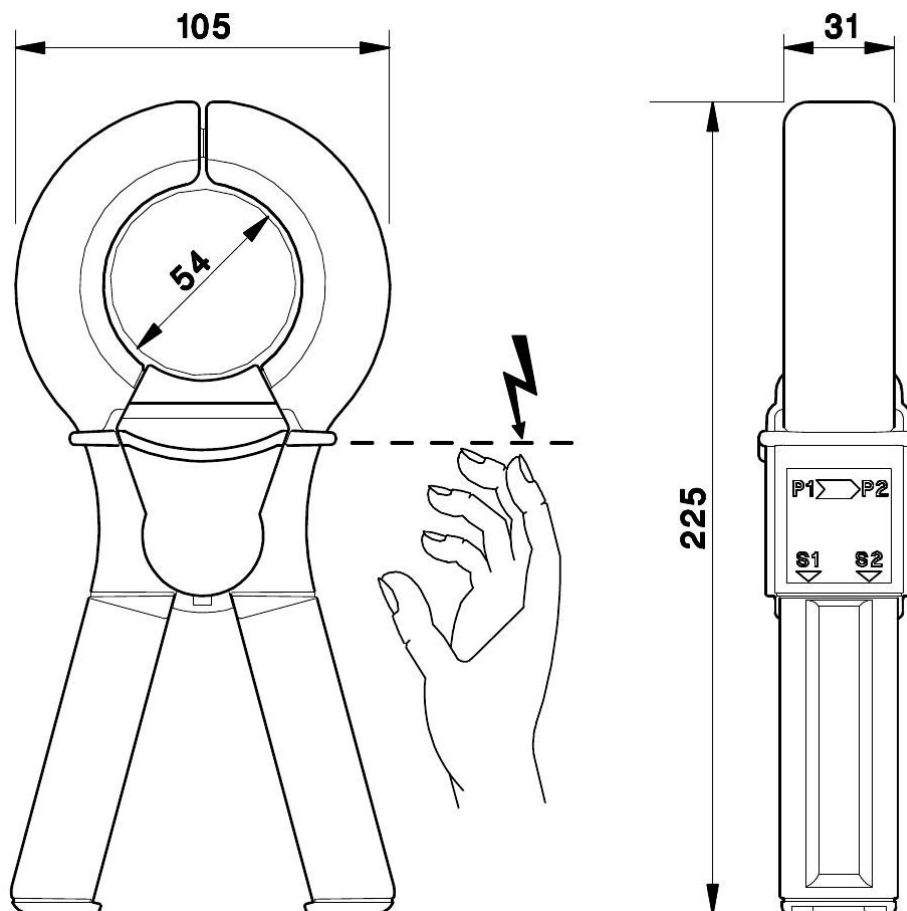

Figure 2.59: Dimensions in mm and protection against electric shock
- For protection against electric shock please refer to Figure 2.59 [→74]